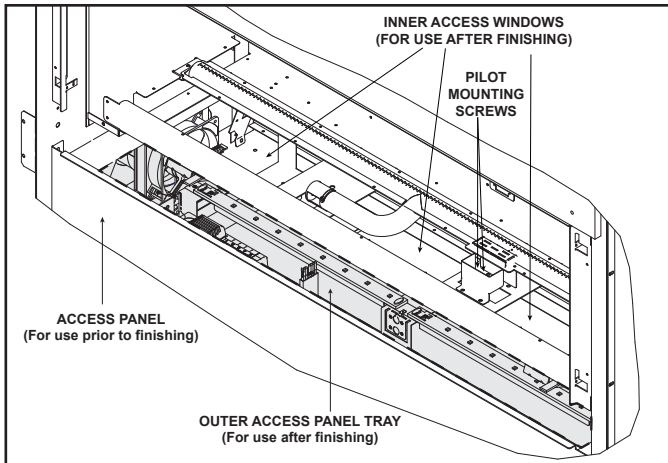

Figure 9.2 Gas and Electrical Access
The lower access cover panel is removable if finishing material is not installed. See Figure 9.2.
2. Remove the base pan. It is attached with 10 screws to the interior firebox bottom and with 12 screws to the burner assembly. If your appliance is a model that has the glass rock media, you must also remove the pilot shield cover at this time. See Figure 9.2 and Figure 9.3.
4. Remove access panel covers or glass windows, along with gaskets. Gaskets may be fragile. Handle with care. See Figure 9.2.